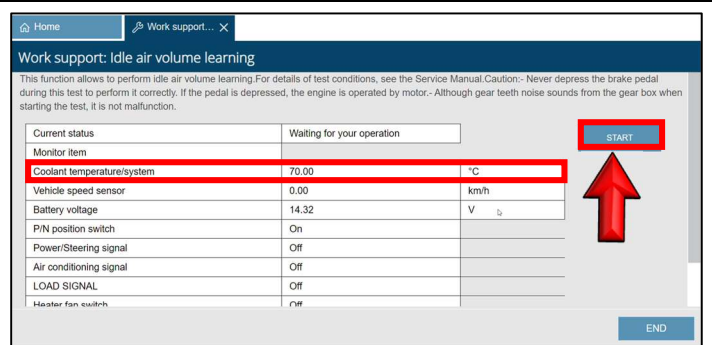

Figure 29
31. Allow the engine to idle while monitoring "**Coolant temperature/system**". (Figure 29)